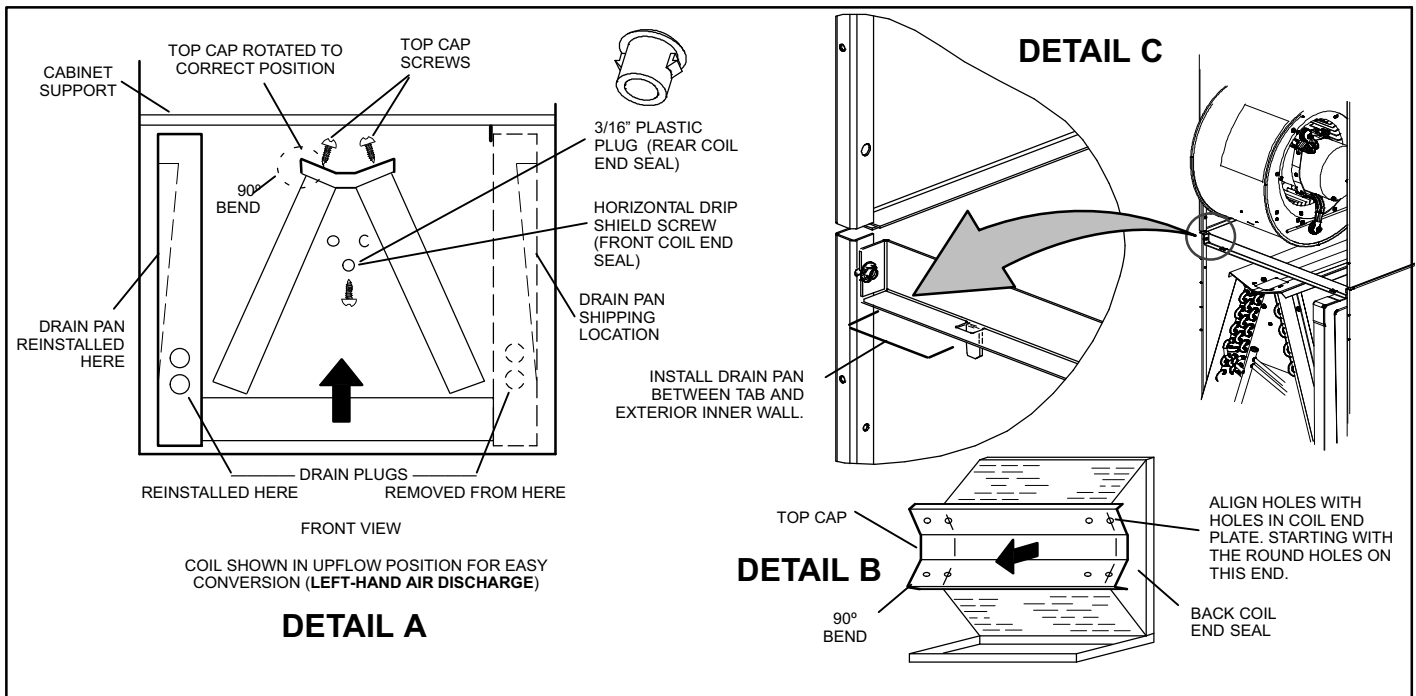

Figure 4. Field Modification for Left-Hand Discharge
4. Remove screws from top cap as illustrated in figure 4, detail A.
5. Remove horizontal drip shield screw located in the center of the rear coil end seal as illustrated in figure 4, detail A.
9. Rotate top cap 180° front-to-back and align with unused screw holes. Holes must align with front and back coil end plates. The top cap has a 45° bend on one side and a 90° bend on the other. The 90° bend must be on the same side as the horizontal drain pan as illustrated in figure 4, detail B.
10. From the upflow position, flip cabinet 90° to the left and set into place. Replace coil assembly. Replace coil assembly. Install drain pan between exterior inner wall and tab as illustrated in figure 4, detail C.